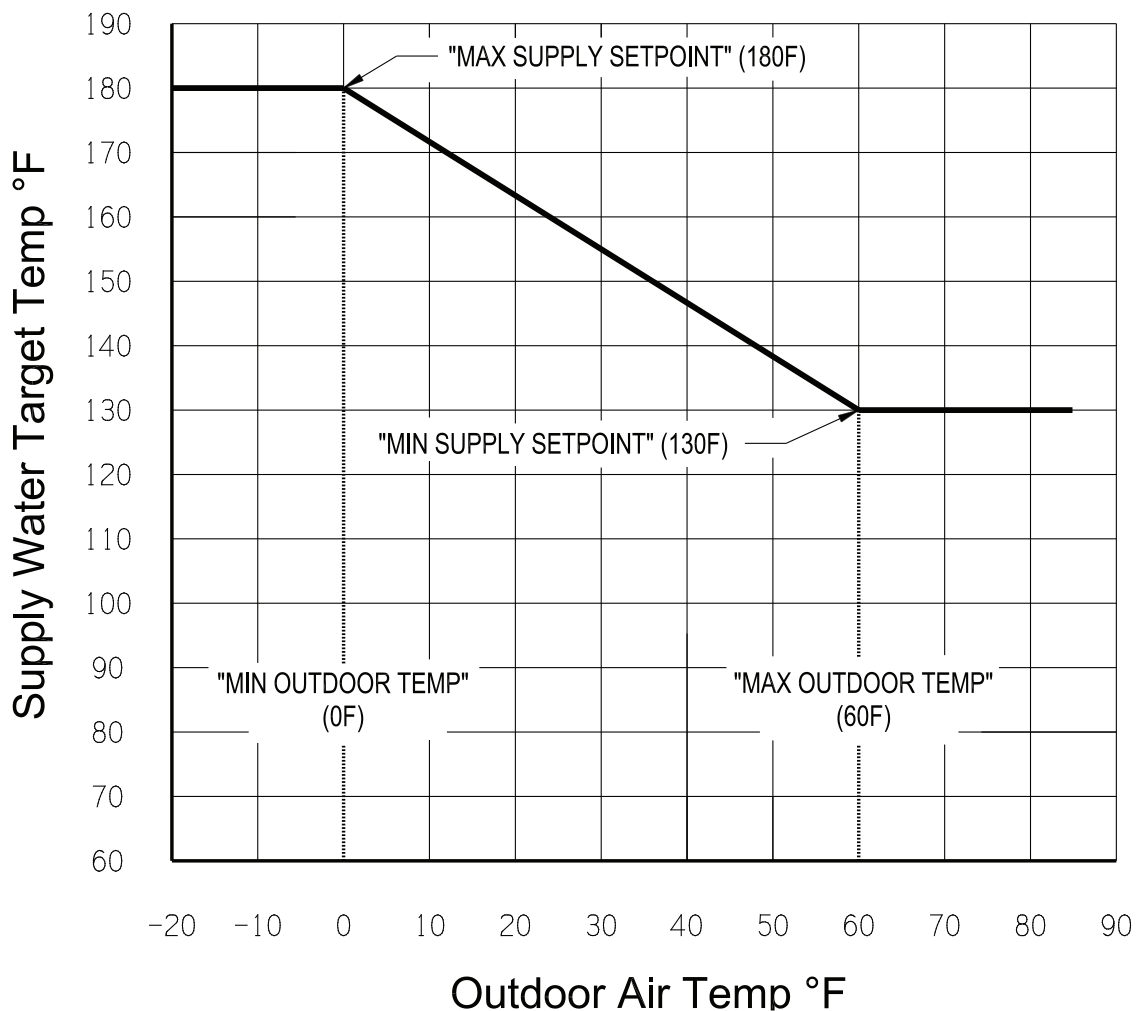

Figure 12.9: Outdoor Reset Curve (Default Settings Shown)
- **Outdoor Reset Enabled** - When the boiler is responding to a call for heat, the target water temperature will adjust downward (within certain limits) as the outdoor temperature increases. The graph in Figure 12.9 shows how the target water temperature changes with outdoor temperature. Figure 12.9 shows the default reset curve; the “ends” of this curve can be changed in the Settings Menu.
- **WWSD Enabled** - When the outdoor temperature is above the WWSD Outdoor Temperature setting, the boiler will ignore a call for space heat (CH) from the thermostat.
- * The target water temperature is 6°F below the top of the reset curve (174°F in the example shown in Figure 12.9)
b) If outdoor reset is enabled, there are a total of four settings that can be changed (also see Figures 12.9 and 12.10):
- b) **Setpoint** - Current CH setpoint obtained from outdoor reset curve (Figure 12.9).